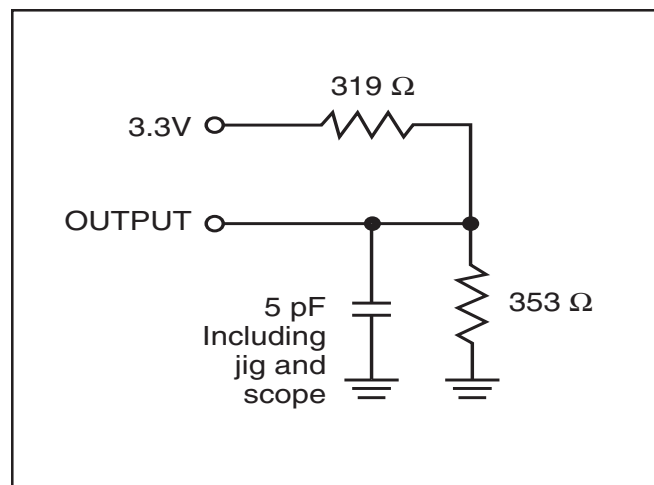

Figure 2
2. Tested with the load in Figure 2. Transition is measured  $\pm 500$  mV from steady-state voltage.
2. Tested with the load in Figure 2. Transition is measured  $\pm 500$  mV from steady-state voltage. Not 100% tested.